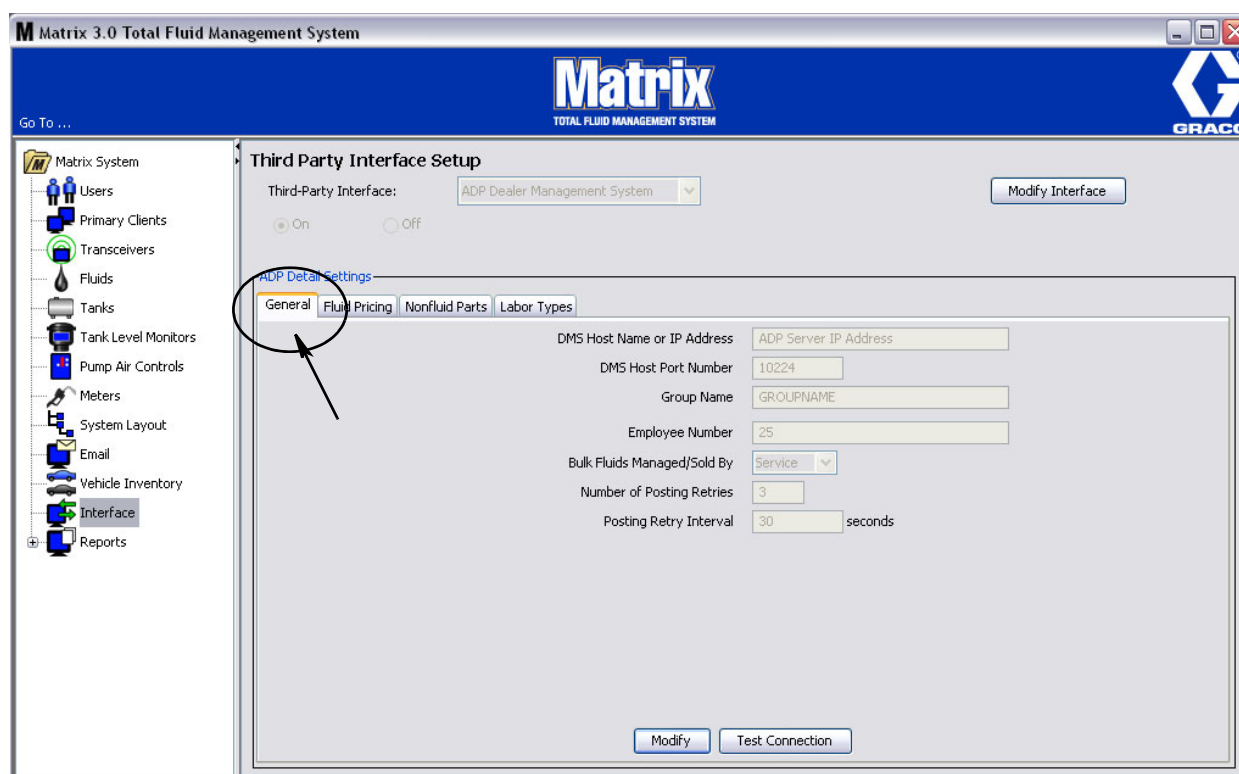

Fig. 166 ADP General Setup Screen
The ADP General Setup screen (Fig. 166) contains all the setup configuration information necessary for Matrix to apply the appropriate fluid charge to an ADP Repair Order (RO).
1. Click the **Modify Interface** button (FIG. 166). The External Interface Setup Dialog box shown in FIG. 167 displays. This dialog box is used to specify the Third Party Interface you are using.
1. Click the **Modify** button (FIG. 166, page 129) to display the ADP DMS Connection Setup dialog box used to define the DMS.